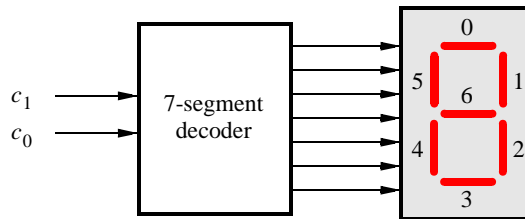

Figure 6. A 7-segment decoder.
Figure 6 shows a 7-segment decoder module that has the two-bit input  $c_1c_0$ . This decoder produces seven outputs that are used to display a character on a 7-segment display. Table 1 lists the characters that should be displayed for each valuation of  $c_1c_0$ . To keep the design simple, only three characters are included in the table (plus the 'blank' character, which is selected for codes 11).
2. Create a VHDL entity for the 7-segment decoder. Connect the  $c_1c_0$  inputs to switches  $SW_{1-0}$ , and connect the outputs of the decoder to the  $HEX0$  display on the DE board. The segments in this display are called  $HEX0_0, HEX0_1, \dots, HEX0_6$ , corresponding to Figure 6. You should declare the 7-bit port